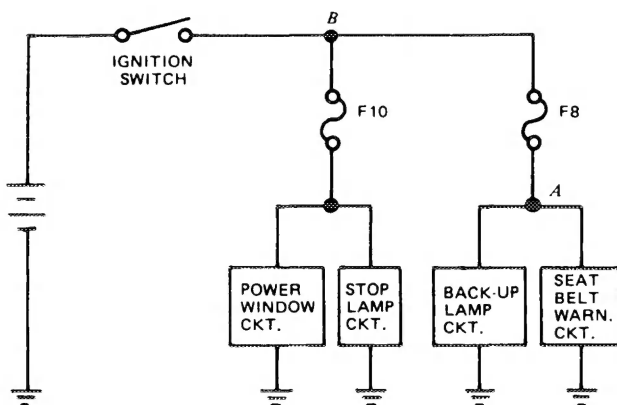

Figure 1
**FIG. NO. LOCATION** — lists the *Figure Number(s)* and *Coordinates* at which the ground(s) can be found. Since Figures 1, 2, & 3 are the only diagrams containing coordinates, a number appearing alone (*without coordinates*), indicates the Figure Number only.
In order to obtain additional information about *where* the problem exists, related symptoms are found by conducting *operational checks* on circuits which are connected to the problem circuit. Operational checks are made *without* the use of test equipment. Your most important tool will be the wiring diagram. For example, refer to Fig. 1: